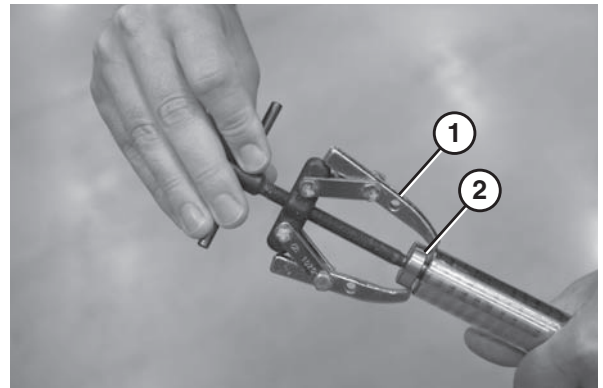

Figure 92
3. Using a bearing removal tool (Figure 92, item 1) remove the bearing (Figure 92, item 2).